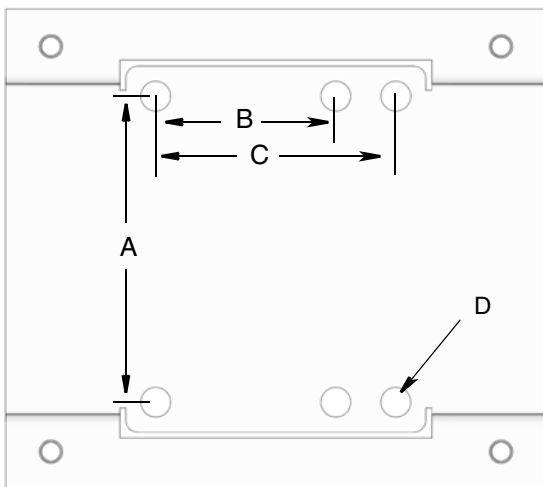

FIG. 6
1. Drill holes in mounting surface. Use reel base (103) as a template for mounting hole position or refer to FIG. 6 for dimensions.